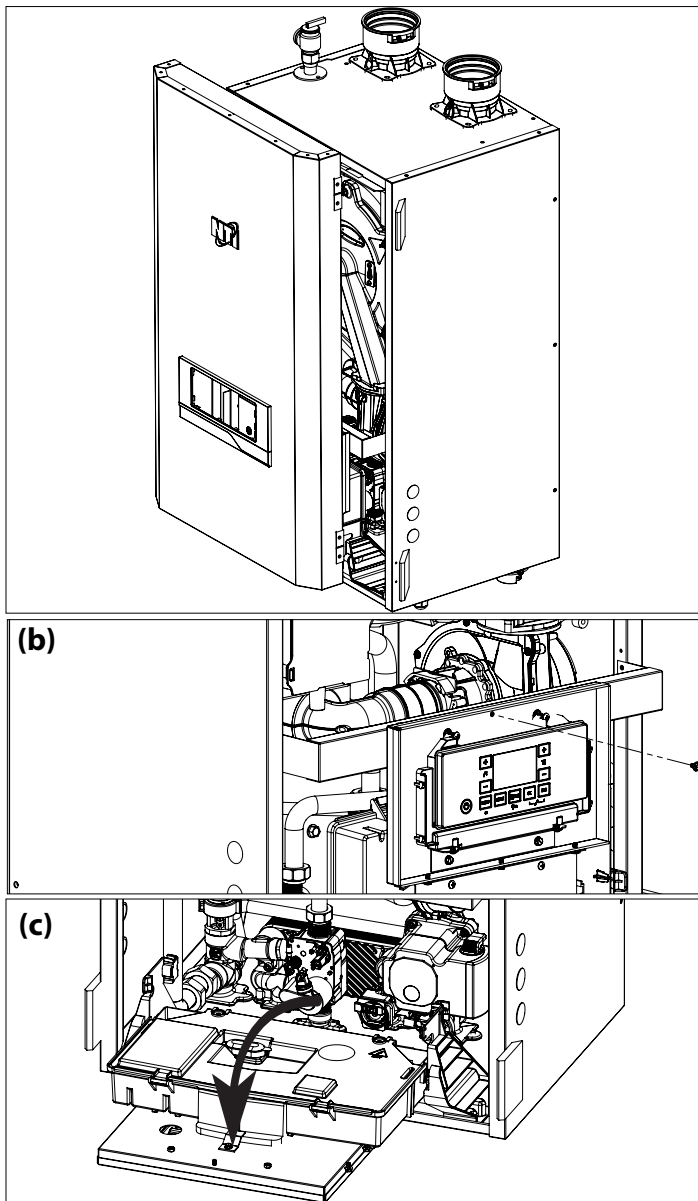

Figure 83 - Removing the Cover and Control Panel Housing
See Figure 83 to access the interior of the boiler:
3. Remove the front panel as shown in Figure 83.